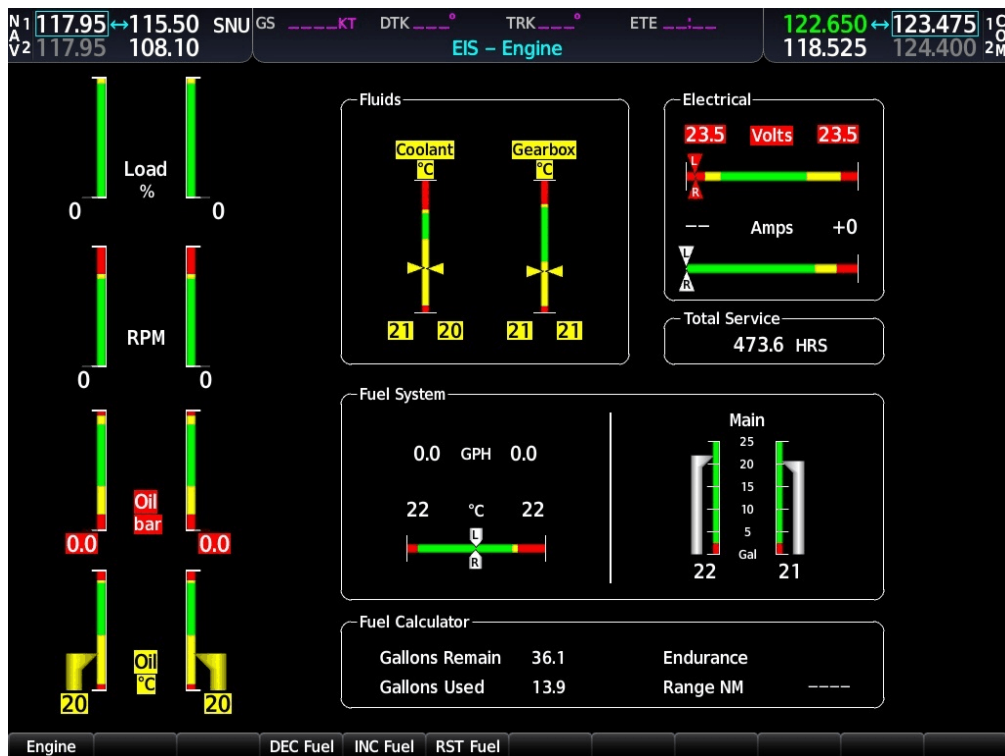

Figure 5: MFD Full EIS Page
- If MÄM 42-978 is installed, pressing the ENGINE softkey at the bottom of the MFD will change the display of the MFD to a full engine indication system page, as shown in Figure 5.